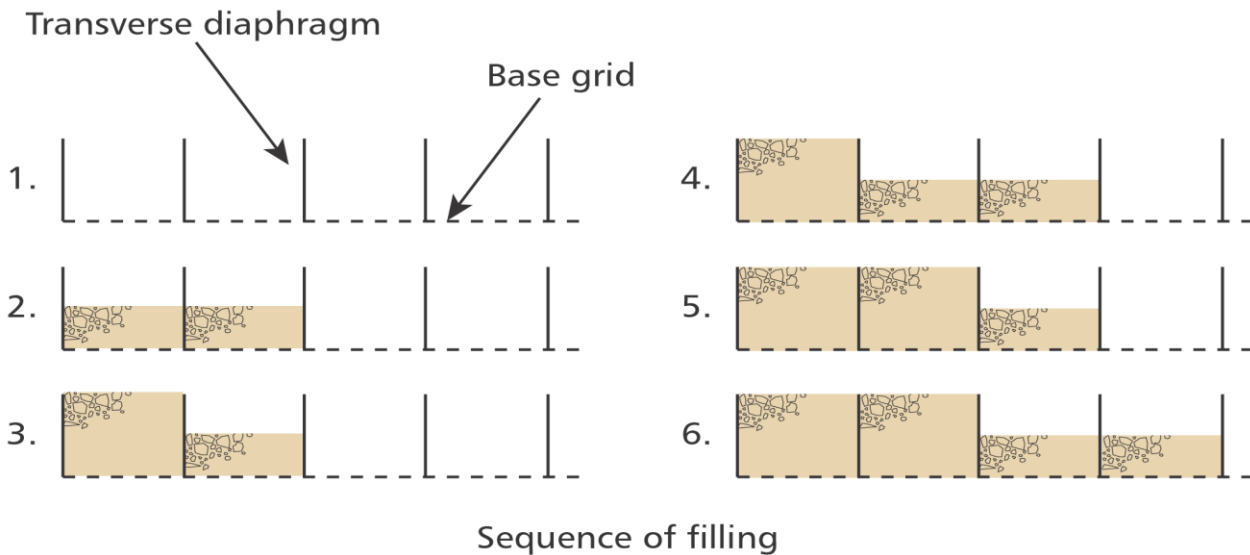

Figure 7 'Section showing sequence of filling'
9. **Filling the Stratum Cellular Mattress** - Fill the first two rows of cells to half height. Fill first row to full height, using approved granular fill. Continue filling, ensuring that leading row is always half filled before trailing row is fully filled (Figure 7). Filling may be carried out by mechanical plant operating directly on top of filled cells. It is normal practice for the fill to be placed within the Stratum cellular mattress system without applying direct compaction. A protective cover of 150mm thickness of compacted fill should be placed over the Stratum cellular mattress before trafficking.